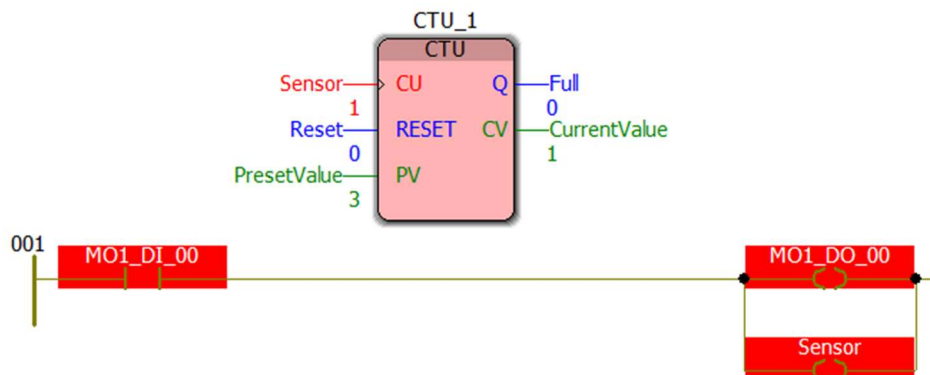

Figure 31: Program in Debug Mode and Button Switched On
- Toggling the DI_00 switch should make the program look like Figure 31 as well as turn on the light above the DI_00 switch labeled DO_00.